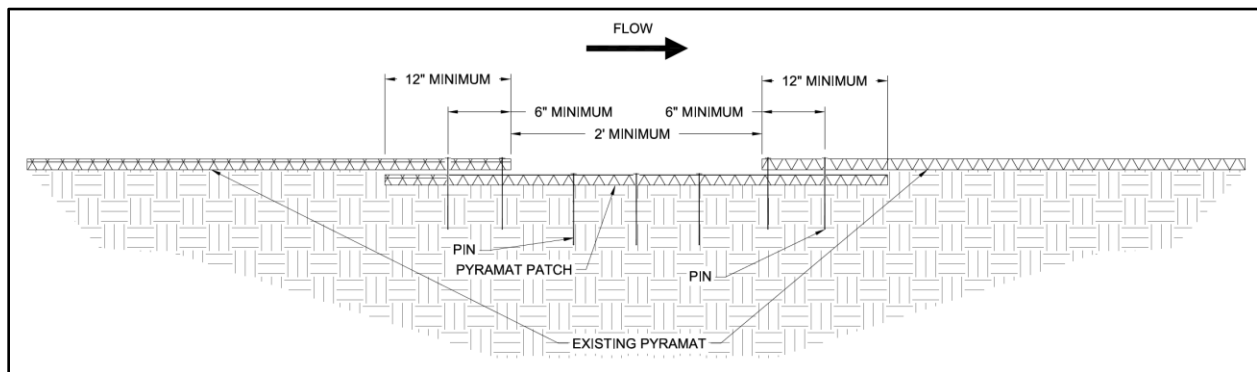
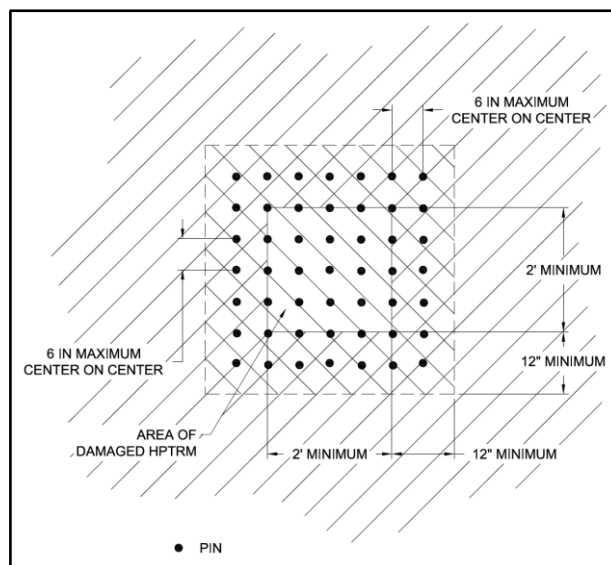

Figure 21: PYRAMAT Patch Cross Section
Figure 22: PYRAMAT Patch Plan View
- A. *Acceptable (A)* - The rated area is in satisfactory, acceptable condition, and will function as designed and intended during the rain event. PYRAMAT has no exposed edges, is installed tightly by maintaining direct contact to the channel surface with no rilling beneath, and has over 90% vegetation cover. There is no noticeable damage present.
- B. *Minimally Acceptable (M)* - The rated area has a minor deficiency that needs to be corrected. The minor deficiency will not seriously impair the functioning of the area during the next rain event; however, the overall reliability of the project will be lowered because of the minor deficiency. PYRAMAT has 75% vegetation cover with un-vegetated patches as large as one square yard. Edges of PYRAMAT are exposed with noticeable damage. Minimal erosion has occurred underneath PYRAMAT.
- C. *Unacceptable (U)* - The rated area is unsatisfactory. The deficiency is so serious that the area will not adequately function in the next rain event. PYRAMAT has been physically torn, ripped, or lifted from the channel surface. Less than 75% vegetation cover is present with un-vegetated patches being greater than 1 square yard, and there is evidence that erosion is occurring beneath PYRAMAT.
3. To repair PYRAMAT, cut out and remove damaged areas in a square configuration a minimum size of 2 ft by 2 ft. Remove all vegetation and debris atop of PYRAMAT. Loosen the top 1 to 2 in of soil in the patch area then seed. The subgrade of area to be patched shall be prepared to be smooth and uniform and transition smoothly into the in-situ area. Cut a square PYRAMAT patch a minimum of 12 in greater than the damaged area for all four sides of the patch. Overlap the patch area in all directions a minimum of 12 in. The patch overlaps shall be tucked under the existing damaged PYRAMAT material (Figure 21 and Figure 22).